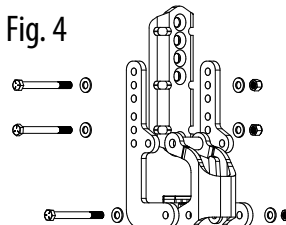
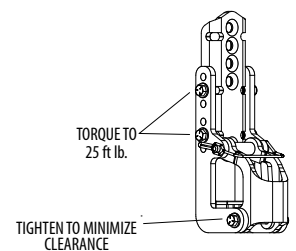

Fig. 5
Fig. 6
- Torque the two 3/8"-16 X 4" Hex Head Bolts (7a) installed through the Hook-up Bracket to 25 ft lb. The third 3/8"-16 X 4" Hex Head Bolt (7a) installed through the Lift Bracket should be tightened to minimize clearance. Over tightening can prevent it from rotating properly (See Fig.5).
- Repeat the above steps for the second Hook-up Bracket Assembly (6).
- 2** The recommended Hook-up Bracket Assembly centerline location is 32" from the center of the coupler ball socket. This location can be adjusted from 28"-33" along the trailer frame to avoid interference with any items such as battery boxes or propane tanks (See Fig.6).